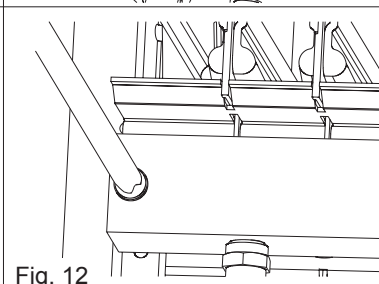

Fig. 12
- Remove the screws that hold the diffuser in place (fig. 12)